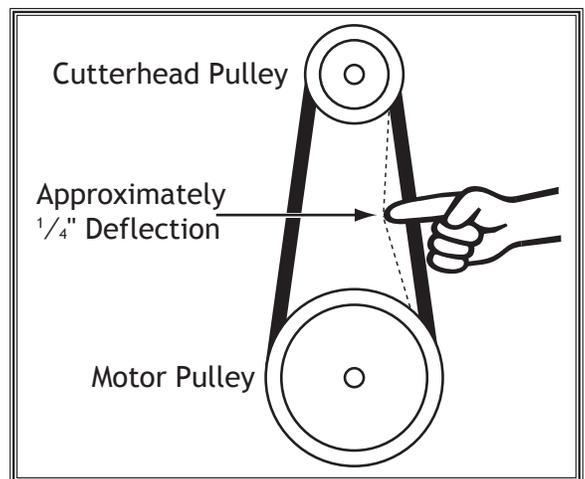

Figure 61. Checking belt deflection.
5. Press belt with moderate pressure in center to check belt tension. Belt is correctly tensioned when there is approximately 1/4" deflection when pushed, as shown in **Figure 61**.